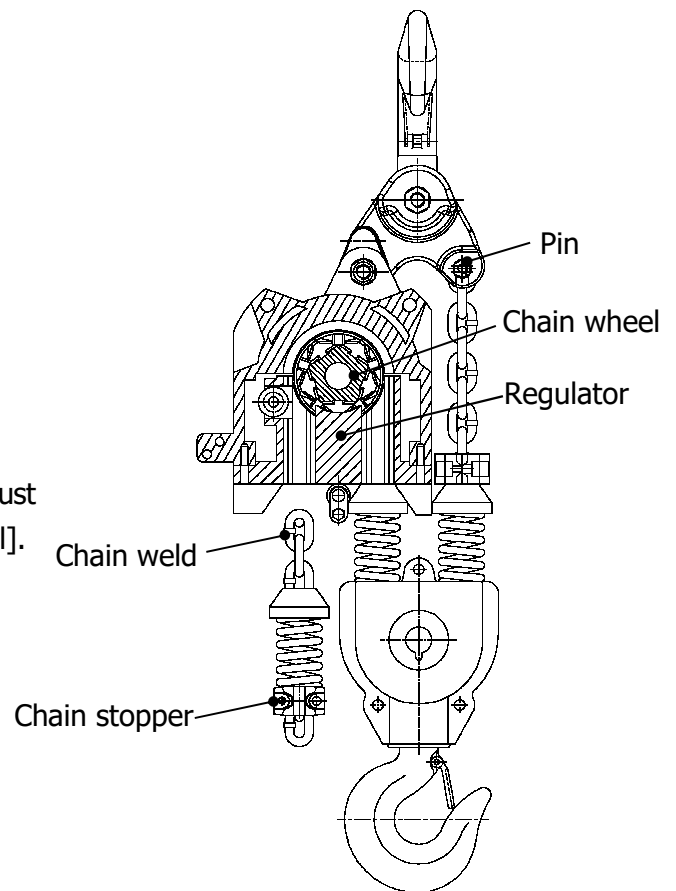

Fig.24
For Double Load chain fall hoists models: YSA-200, YSA-630 (Fig. 24)
The first link must be a standing link [the link must be perpendicular to the bottom hook chain wheel]. Note the position of the link weld on all standing links – (Fig.24).
- 6) Double Load chain fall Hoists: YSA-200, YSA-630 (Fig.24)
- ① Pass a steel wire through the bottom hook Assembly Hook and attach the end link on the load side of the Load chain onto the steel feed wire.
- ② Ensure that the Load chain is straight, then feed the Load chain through the bottom hook Assembly by pulling the steel feed wire through the Assembly.